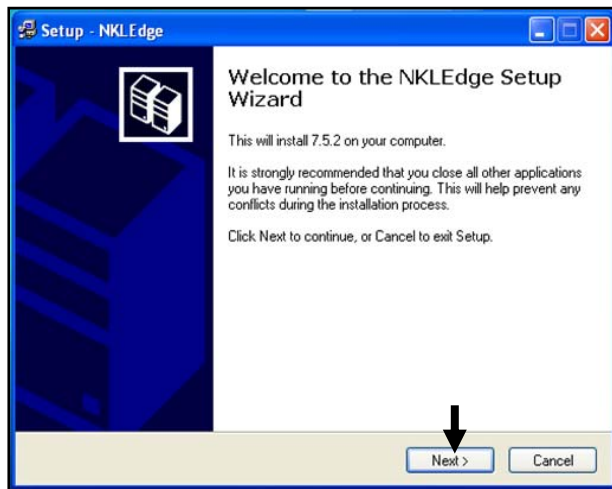
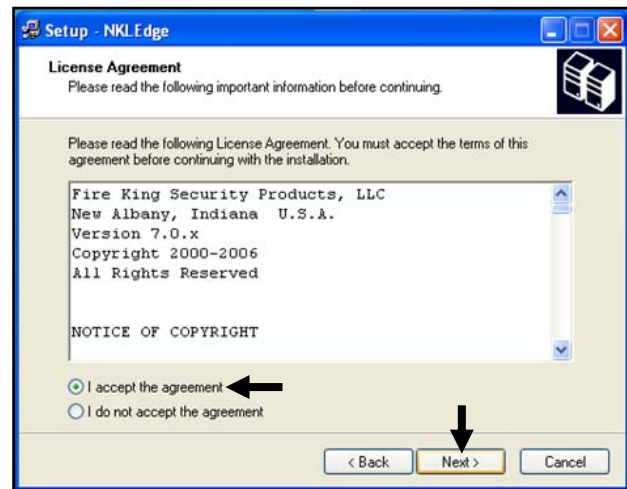

Fig. 3.3
Fig. 3.4
- 4) Select **Next** (Fig. 3.3), **accept the License agreement**, and then select **Next** again to continue (Fig. 3.4)